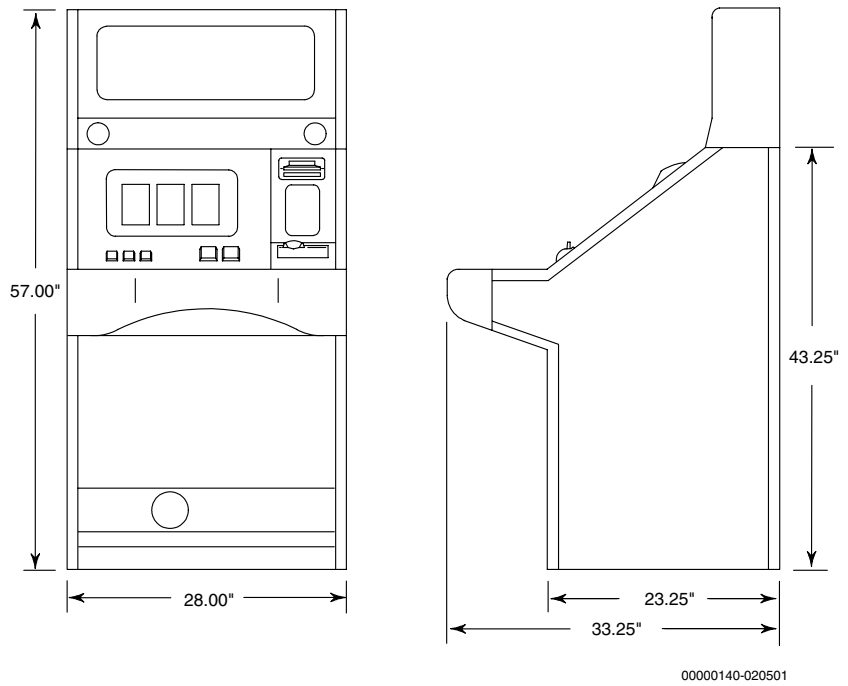

Figure 3-16. Cabinet Dimensions – S2000 Series Slant-Top with Square Top Box
- Cabinet Dimensions – Figures 3-16 and 3-17